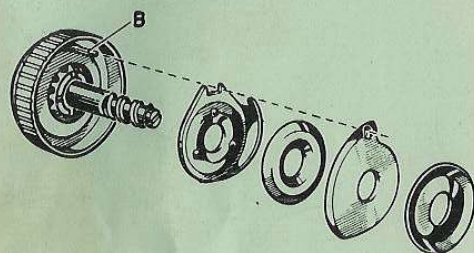

Fig. 31
- Disassemble parts as in Fig. 31.
- Assemble parts exactly as shown in Fig. 31 and in such a way that the « O » mark will be visible on button « A ».